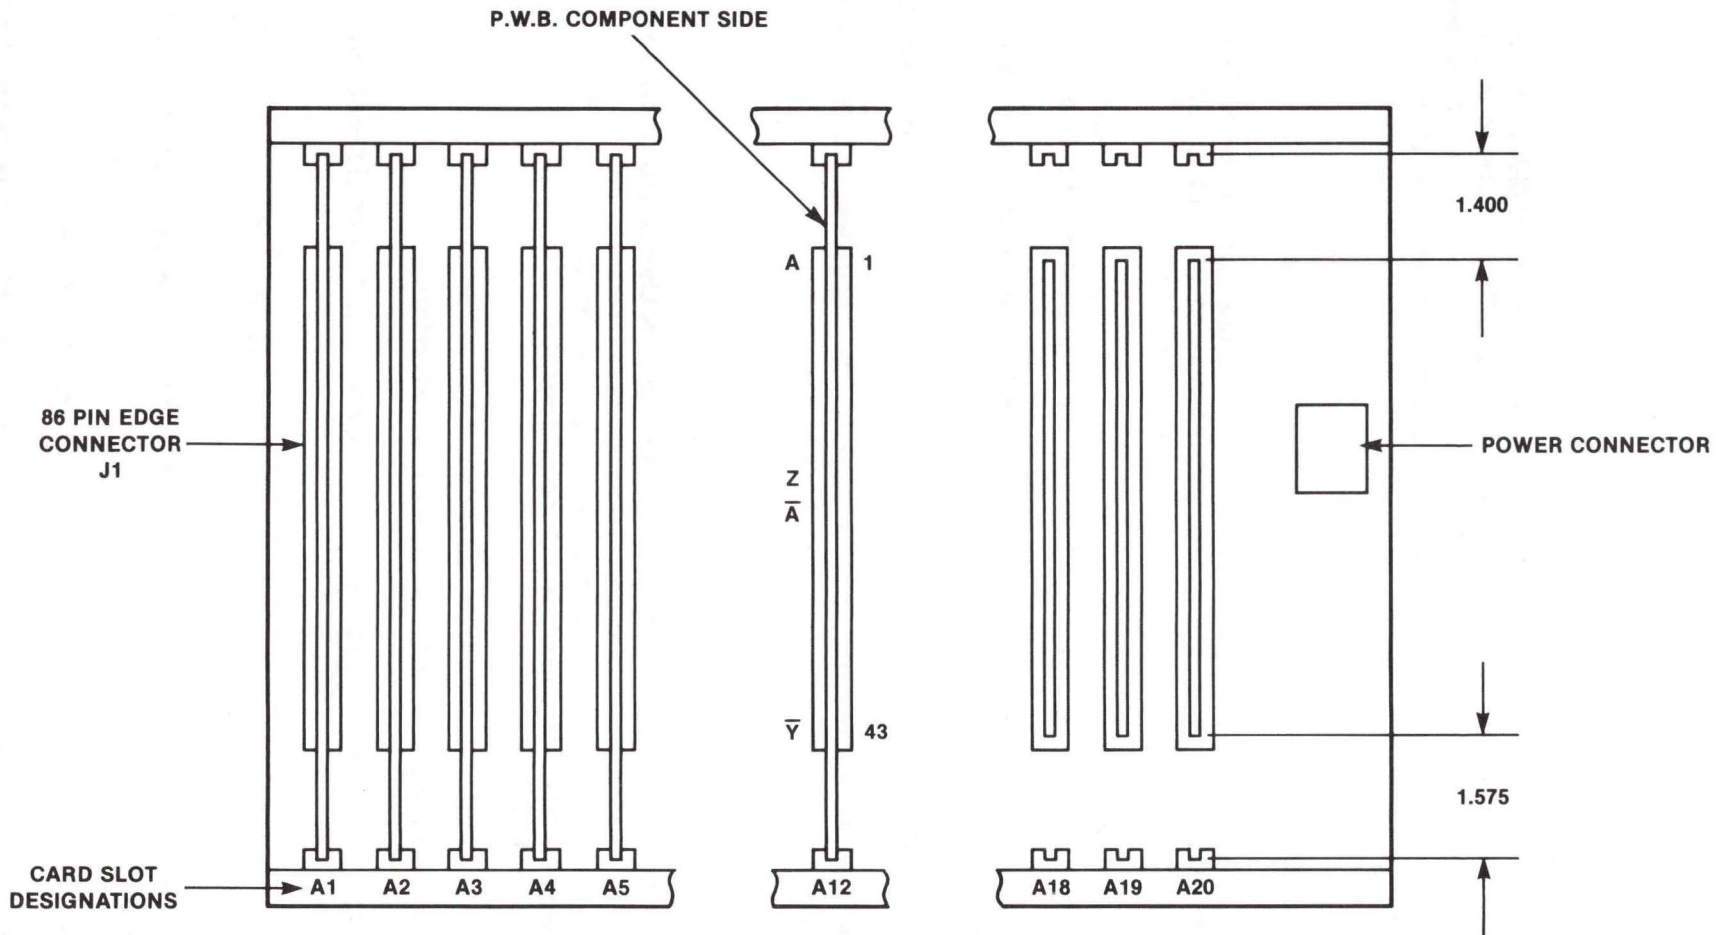

FIGURE 5-1. Motherboard Reference Designations and Pin Numbering Standard (front view)
The following standards are recommended for motherboard identification purposes (see Figure 5-1):
- a. Card slot locations are designated A1, A2, A3, etc. The numbering technique is illustrated in Figure 5-1.
- c. Numbering of the 86-pin socket is depicted in Figure 5-1.